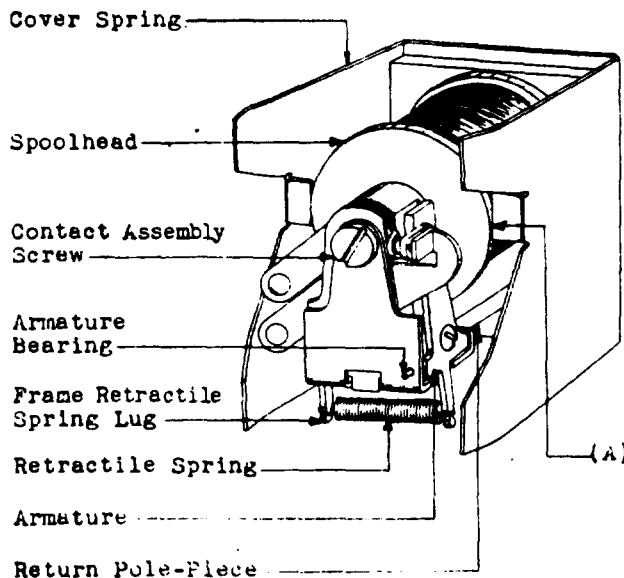

Fig. 1 - No. 214A Relay With Cover Removed
(b) Fig. 1 (A): The prongs of the cover spring shall rest on the front spoolhead when the cover is off. Gauge by eye.